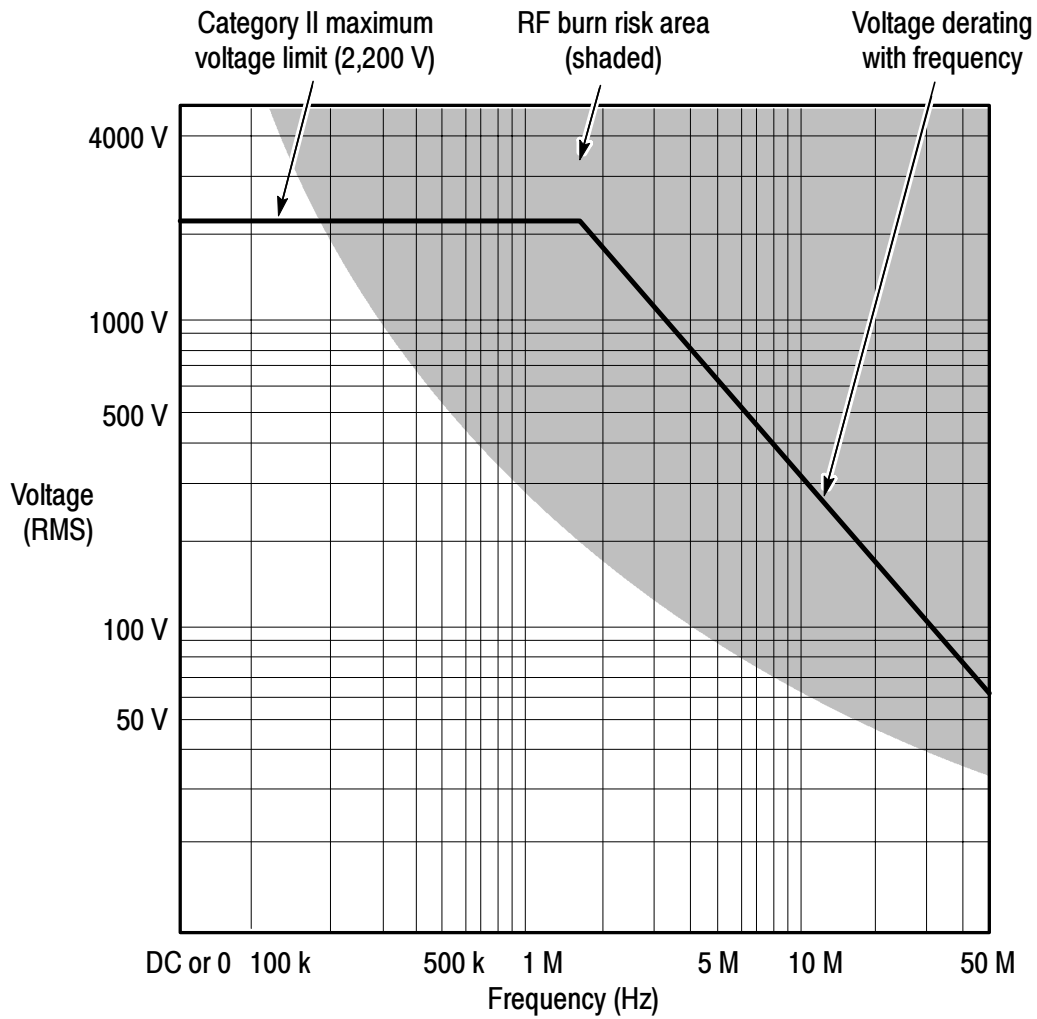

Figure 1: Safety Limits (voltage between either input and earth ground)
Avoid RF Burns While Handling Probe. To avoid RF burns, do not handle the probe while the input leads are connected to circuits above the voltage and frequency limits specified in Figure 1 on page 3. Use only probe accessories that are rated for the application.
WARNING. *To avoid personal injury, do not handle the probe leads when the leads are connected to a source that is above the voltage and frequency limits given in Figure 1 on page 3. The area above these limits poses a risk of radio frequency (RF) burns.*
Above 1.5 MHz, the voltage limit decreases as frequency increases. See Figure 1. The input limit applies to both the 100X and 1,000X settings.